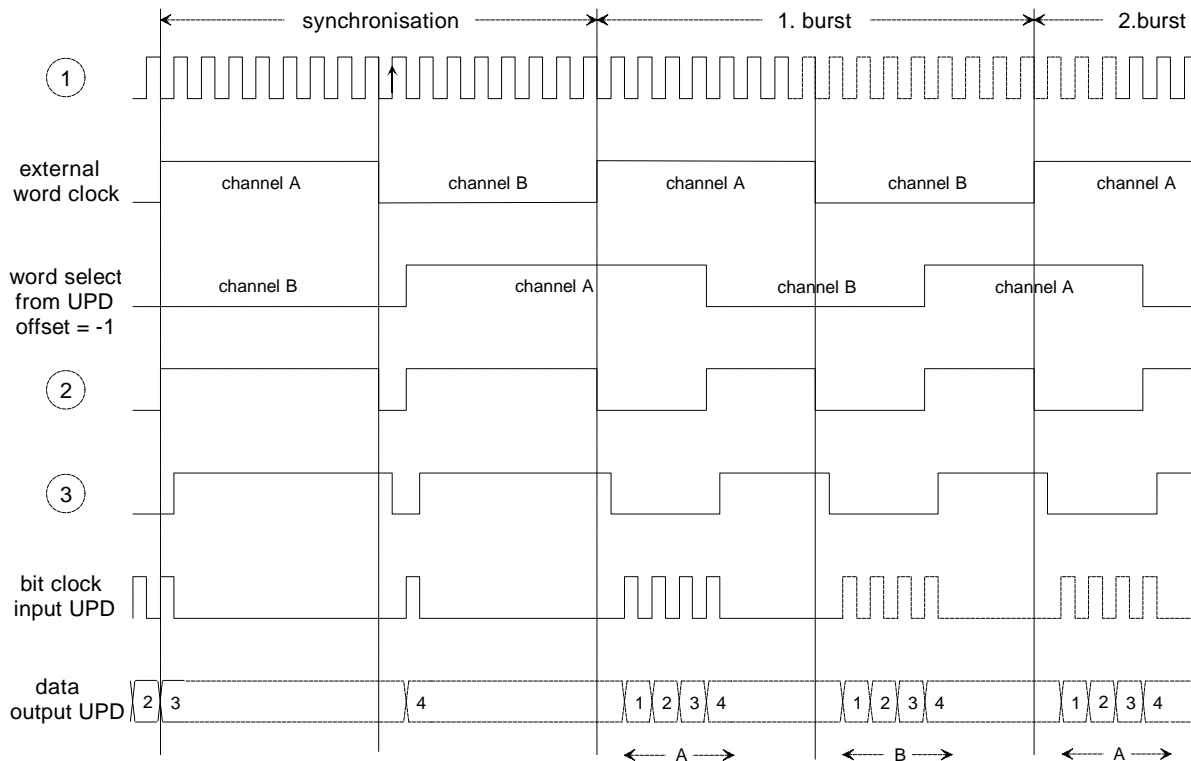

Fig. 7: Timing diagram for the generation of dual-channel multiplexed data bursts
Figure 7 shows the timing diagram for the external circuit. For the sake of clarity, data bursts with only 4 bits per data word are shown. These cannot be generated by UPD, but the operating principle of the circuit can be explained just as well using this type of burst.
The EXOR gate compares the external word clock signal with the word select signal from UPD. If the signals are equal, the output of gate is low, and a clock signal is output to UPD via the NOR gate as shown above in the diagram in Figure 7. When the external word clock signal is switched over, the next rising edge of the external clock signal on line ① causes a high signal to be connected through to the output of flip-flop . The NOR gate is disabled and because there is now no more clock signal output to UPD the state of the output lines does not change anymore. In the example shown, UPD stops after data bit 3 is output.
Bitclock	RISING if a timing as shown in Fig.7 is to be obtained. FALLING if the data words are to be output on the falling edge of the clock signal applied to UPD.